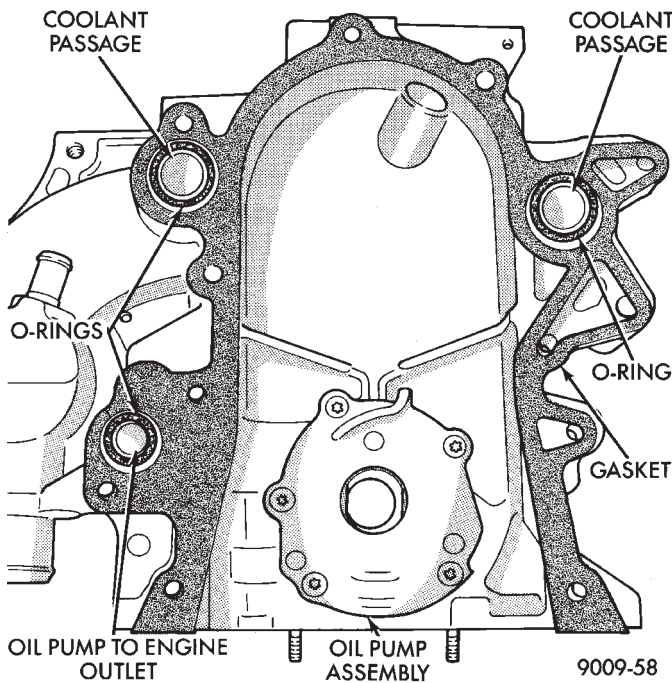
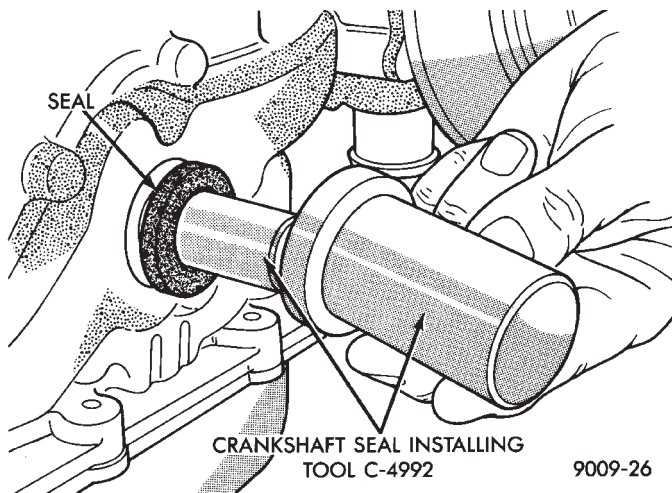

Fig. 6 Timing Chain Case Cover Gaskets and O-Rings
Fig. 7 Install Crankshaft Oil Seal
(1) Be sure mating surfaces of chain case cover and cylinder block are clean and free from burrs. Crankshaft oil seal must be removed to insure correct oil pump engagement.
(2) Use a new cover gasket, O-rings (Fig. 6). Adhere new gasket to cover, ensure the gasket is flush with the lower edge of the cover.
(3) Rotate crankshaft so that the oil pump drive flats are vertical.
(4) Position oil pump inner rotor so the mating flats are in the same position as the crankshaft drive flats (Fig. 6).
(5) Install cover onto crankshaft. Make sure the oil pump is engaged on the crankshaft correctly or severe damage may result.
(6) Install chain case cover screws and torque to 27 N•m (20 ft. lbs.).
(7) Install crankshaft oil seal (Fig. 7).
- (1) Install new seal by using Tool C-4992 (Fig. 7).